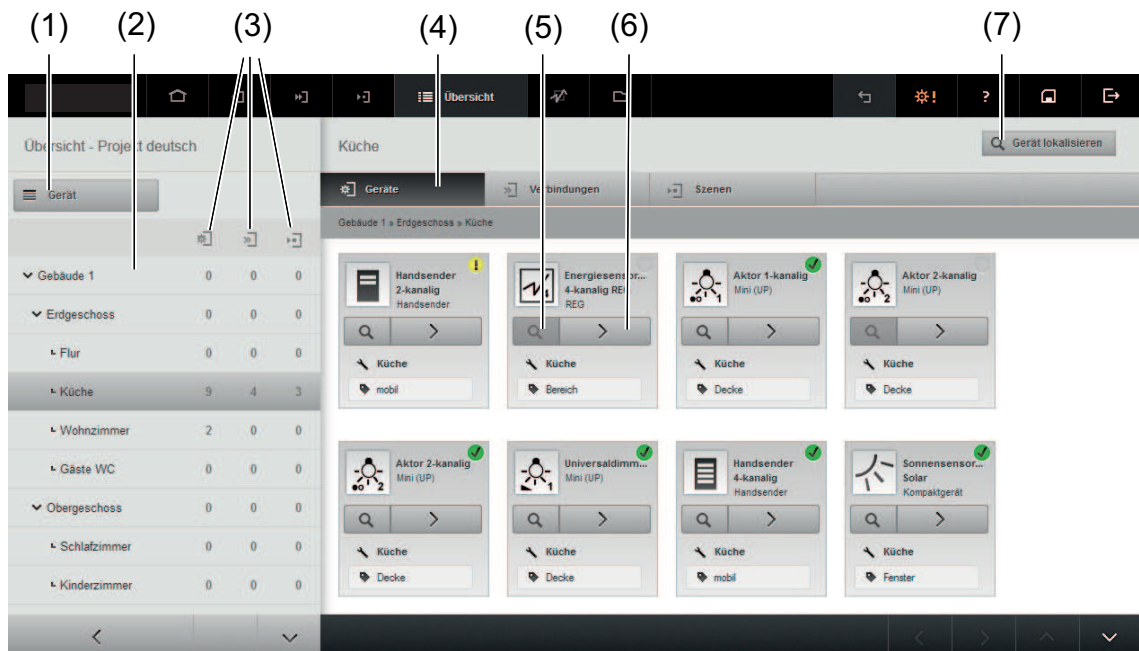

Figure 66: Overview - Devices tab
- Select **Localise device** (Figure 66) button.
- Select the  button in the device tile (Figure 66).
- Select the **Magnifier** button in the device tile of the reset device (Figure 66).